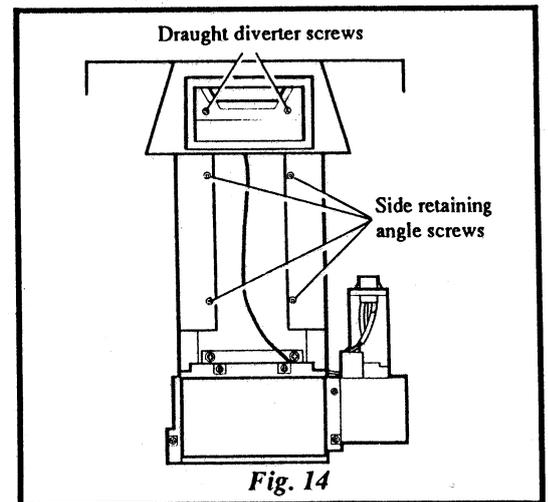

Fig. 14
7. Remove the two screws, see Fig. 14, securing the draught diverter and remove by pulling forward.
8. Remove the four screws, see Fig. 14, securing the side retaining angles and remove the side retaining angles.
3. Refit the side insulation trays and secure with the two retaining angles and four screws, see Fig. 14.
4. Replace the draught diverter and secure with two screws, see Fig. 14.
4. Remove the two screws securing the draught diverter, see Fig. 14 and remove by pulling forward.